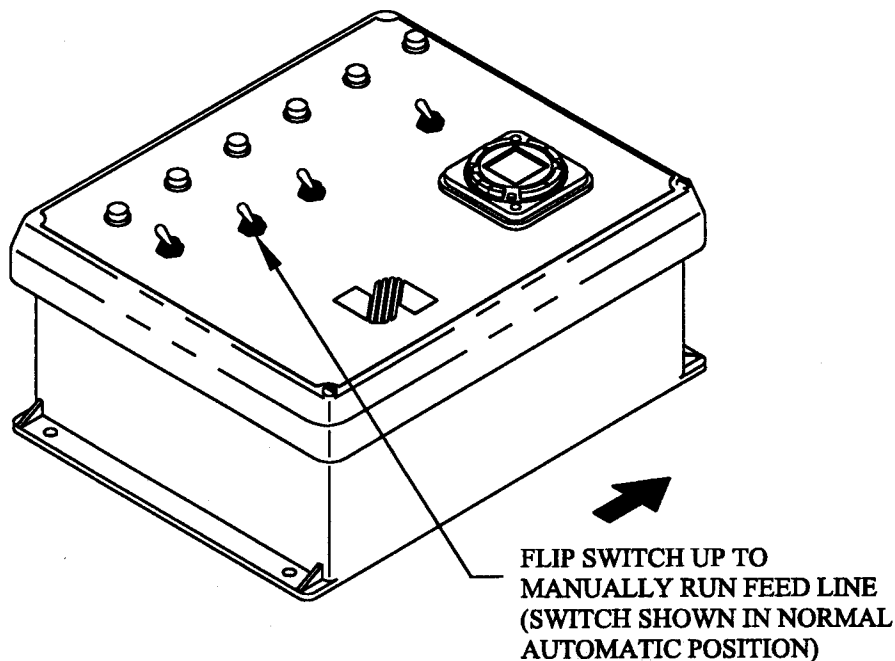

FIG. 6
STEP 6. Manually run the feed line fill systems until the feed just starts to come out of the dropouts in the augers. See Fig. 6. This will charge the feed lines for daily operation.